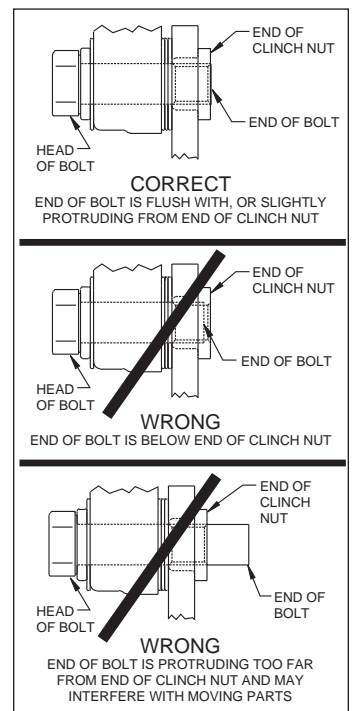

Figure 3. Clinch Nut Engagement Diagram
**Assembly Instructions** (numbers in parenthesis refer to the parts list and Figure 1 on the preceding pages): **CAUTION:** All mounting bolts must fully engage clinch nuts. Be sure to check that all bolts are either flush or protruding through flanged side of clinch nut after shimming, Figure 3.
- Install the o-ring (27) onto the dust cap (19). Press the dust cap into the hub (9), Photo 9.
- NOTE:** *Please reference the caution statement at the beginning of the assembly instructions.* Mount the caliper (20) onto the caliper mounting bracket (5) using bolts (21) and washers (22), as shown in Figure 1. Initially place two .035" thick shims (23) on each bolt between the caliper and the bracket, Photo 10. Temporarily tighten the mounting bolts and view the rotor (14) through the top opening of the caliper. The rotor should be centered in the caliper, Photo 11. If not, adjust by adding or subtracting shims between the bracket and the caliper. Always use the same amount of shims on each of the two mounting bolts. **NOTE:** *The end of each bolt must be flush with or slightly protruding from the head of the clinch nut, as shown in Figure 3.* If necessary place spare shims between washer (22) and caliper mounting ear to achieve the proper clinch nut engagement. Once the caliper alignment and clinch nut engagement are correct, remove the bolts one at a time, apply red *Loctite*® 271 to bolt threads, and torque to 40 ft-lb.